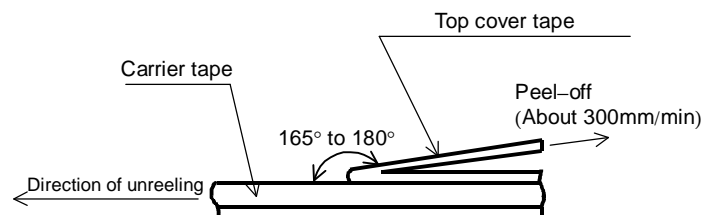

Figure-5
- 5). The peel strength of the top cover tape shall be with in 0.1N to 0.5N on the test method as shown in the following Figure-5.